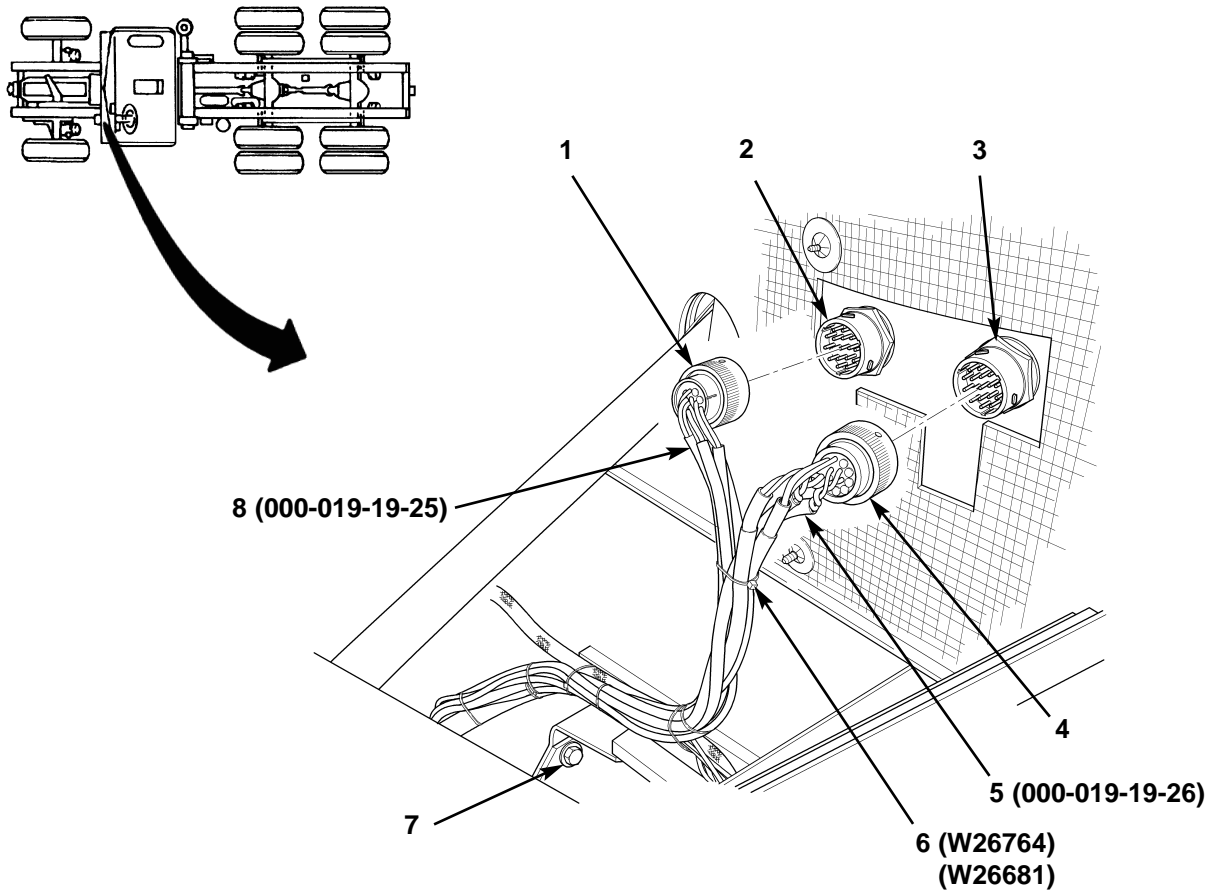

Figure 83. Connecting Harnesses to Bulkhead Connectors.
31. Lay out new speed sensor harness (figure 83, item 5) and new modulator harness (figure 83, item 8) together on shop floor and tie together with five new tie straps (figure 83, item 6) for approximately 3 ft (91 cm) from connectors (figure 83, items 1 and 4).
32. Connect speed sensor harness connector (figure 83, item 4) and modulator harness connector (figure 83, item 1) to bulkhead connectors (figure 83, items 2 and 3), and route harness leads down to left frame rail (figure 83, item 7).